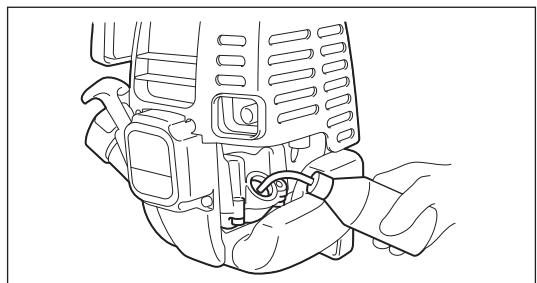

Fig. 3
- As an example to keep the oil gauge clean, it is recommended to insert the oil gauge on its knob side into the engine cover, as shown in Fig. 3.